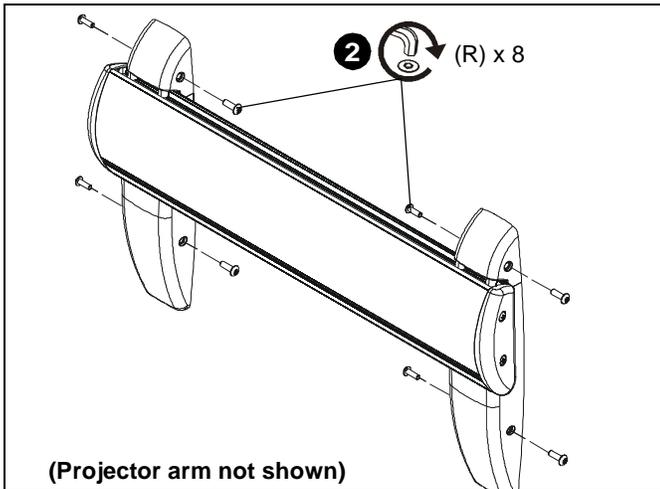

Figure 40
2. Install eight #8-32 x 1/2" button head security screws (R) into holes in wall bracket covers. (See Figure 40)